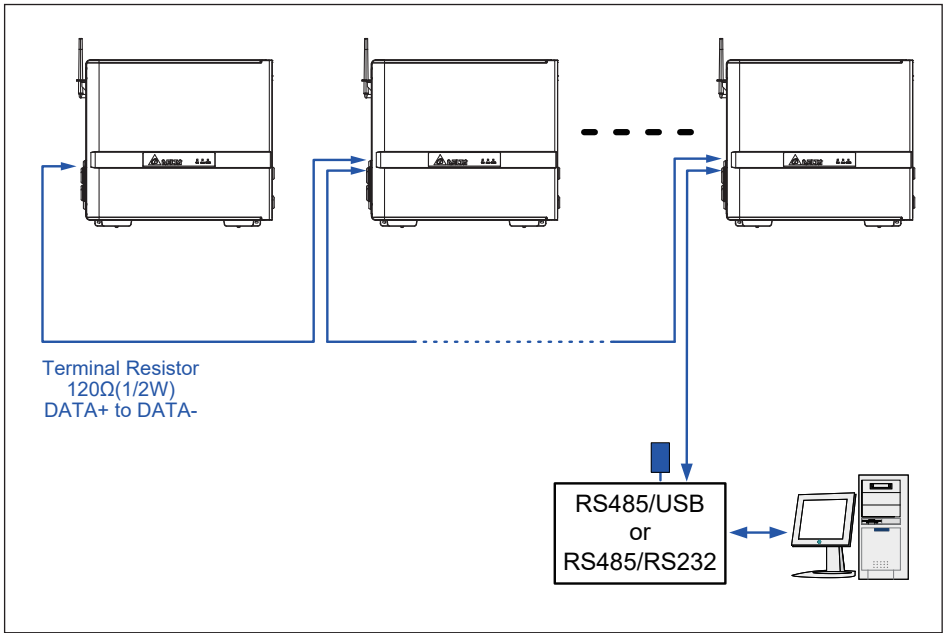

Figure 3-25: Multiinverter connection illustration
- When several inverters are cascaded (i.e., "daisy-chained") only the last inverter in the chain must have its bus termination resistor switched ON (**Figure 3-25**).